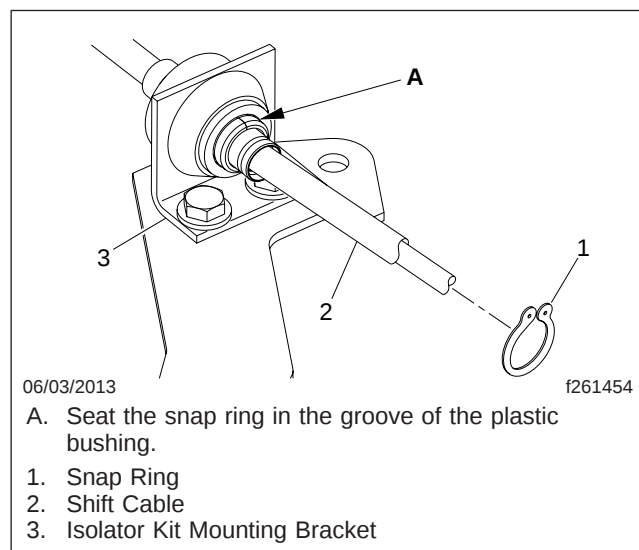

Fig. 5, Snap Ring Installation
9. Install the cable in the bracket using the remaining isolator kit parts. Make sure the snap ring is seated in the groove of the plastic bushing; see **Fig. 5**.